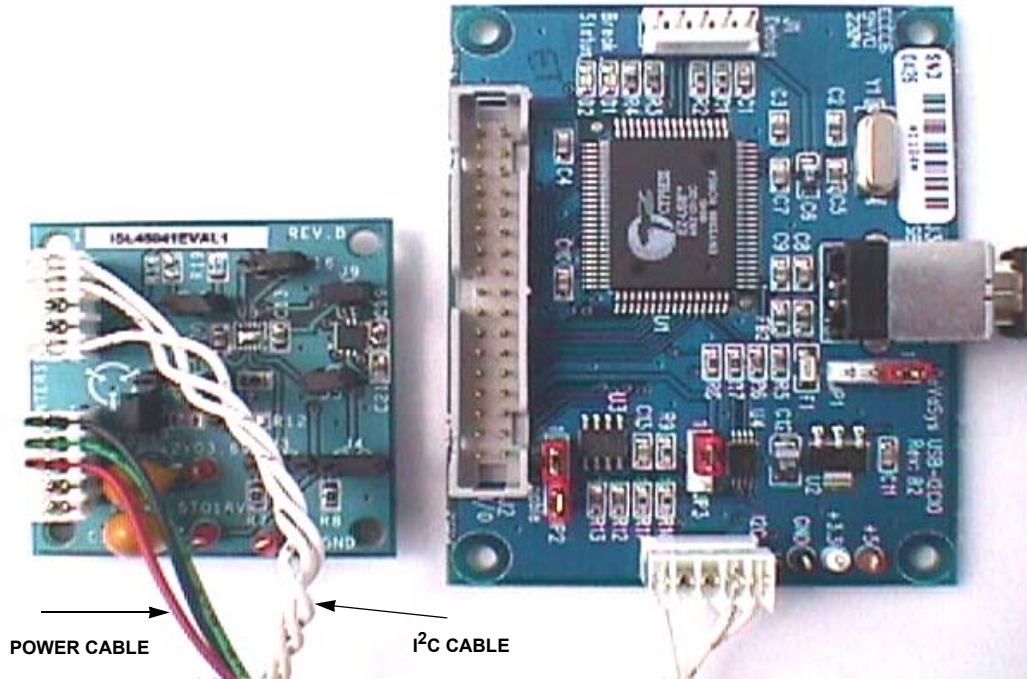

FIGURE 5. ISL45041EVAL1 TEST SETUP
1. Connect the ISL45041EVAL1 board to the DeVasys board as shown in Figure 5. Note: Connect the I²C cable as shown in Figure 5.
3. Connect the power supply cable to the ISL45041EVAL1 board. Note: Connect the power cable as shown in Figure 5. Turn on the power supplies to power up the ISL45041EVAL1 board (make sure the cables are connected properly -- **RED = AVDD; GREEN = VDD; BLACK = GND**).